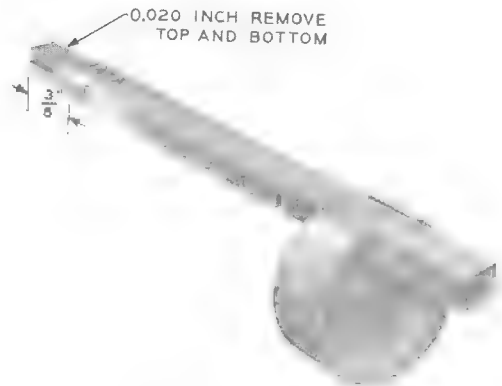
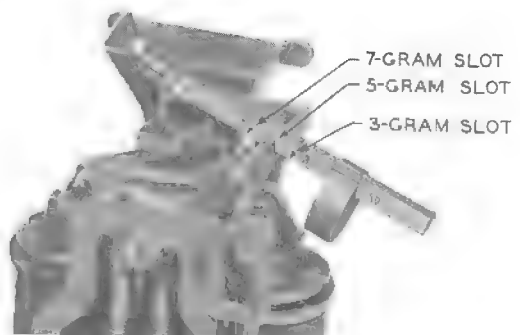

Fig. 60—147A Gauge
Fig. 61—Gauge for Ground Contact Spring Force
- (1) With ground lead connected to coin collector, place required gram slot of 147A gauge (Fig. 60) on horizontal portion of switch lever (Fig. 61).
(2) Connect hand test set across line terminals of coin collector, and trip coin trigger. Dial tone will be heard in dial areas, or operator will answer in manual areas. If not, proceed as follows:
(3) Ground contact-spring force for P-145749 (2-spring) relays should be a minimum of 5 grams measured with the 147A gauge as shown in Fig. 61.
(4) Ground contact-spring force for D-96590 (3-spring) relays should be a minimum of 3 grams measured with 147A gauge 3-gram slot. Contact requirements are as follows: